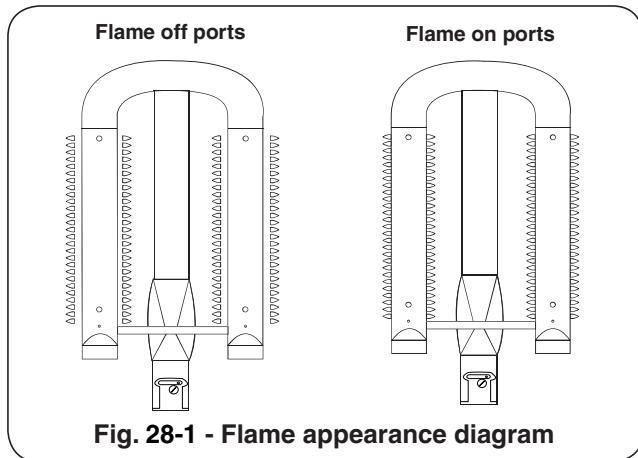

Fig. 28-1 - Flame appearance diagram
Flames from a properly adjusted main burner with no wind or breeze present will appear fairly steady, consistent, and mostly blue. If the tip of a flame were to turn orange, it should only do so briefly and then become blue again. The flames will appear to burn while touching the burner ports (see Figure 28-1).
5. Repeat steps 1-4 until the flames appear to touch the burner ports, burning fairly steadily and mostly blue (see Fig. 28-1).